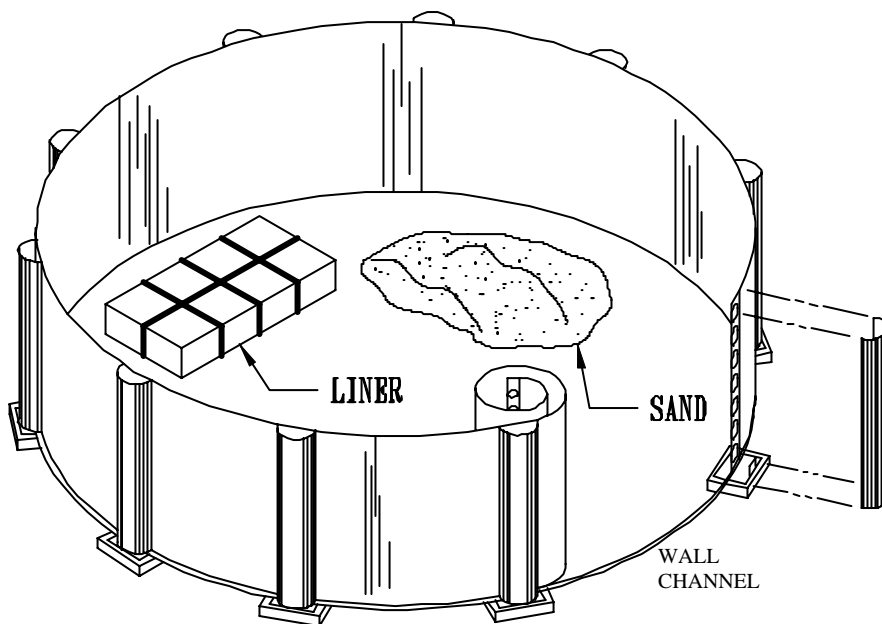

FIGURE 3
Step 3: See Figure 3, 4 and 5. Place the required amount of sand inside the pool area. Starting at the center of a bottom clip, insert the pool wall into the wall channel around the entire pool area. Make sure the skimmer and return cutout are at the top of the wall and not over a clip or upright. Attach the pool wall ends together as shown using the two (2) wall enclosure bars and hardware. The heads of the machine screws must be on the inside of the wall. Do not omit any fasteners in the pool wall connection. The wall will not stay together without all the fasteners. Cover the bolt enclosure on the inside with several layers of duct tape to protect the liner.